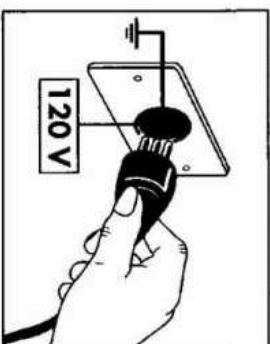

Fig. 1
- Make sure that the electrical installation (120V- 60Hz) is earthed and equipped with differential switch, as required by applicable safety regulations (Fig. 1)